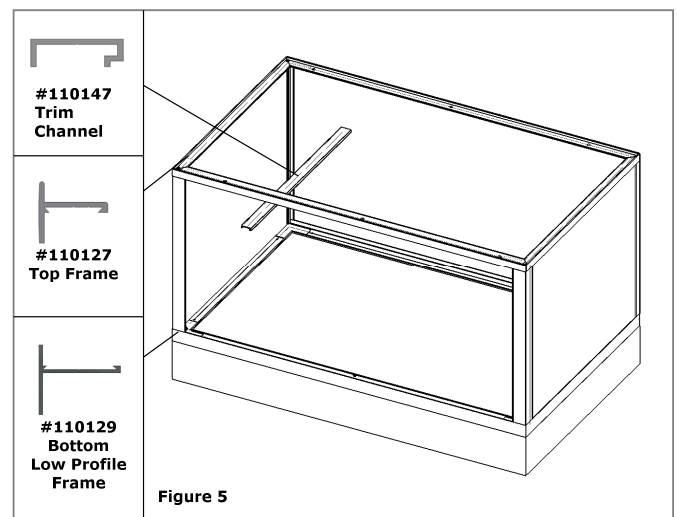

Figure 5
16. Insert trim channels onto the bottom frame to secure the glass. No screws are needed, channels lay into place. **See Figure 5.**